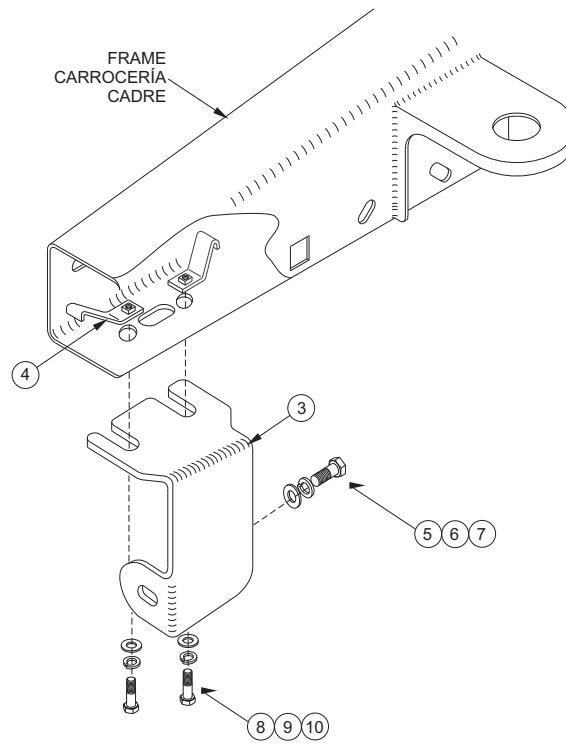

FIGURE 1 INSTALLATION VIEW OF DRIVER SIDE SHOWN, PASSENGER SIDE OPPOSITE
- STEP 3. Insert nut plates through oblong holes in bottom of frame and position over round holes. Start the 3/8" yellow zinc fasteners into bolt plates. **SEE FIGURE 1.**